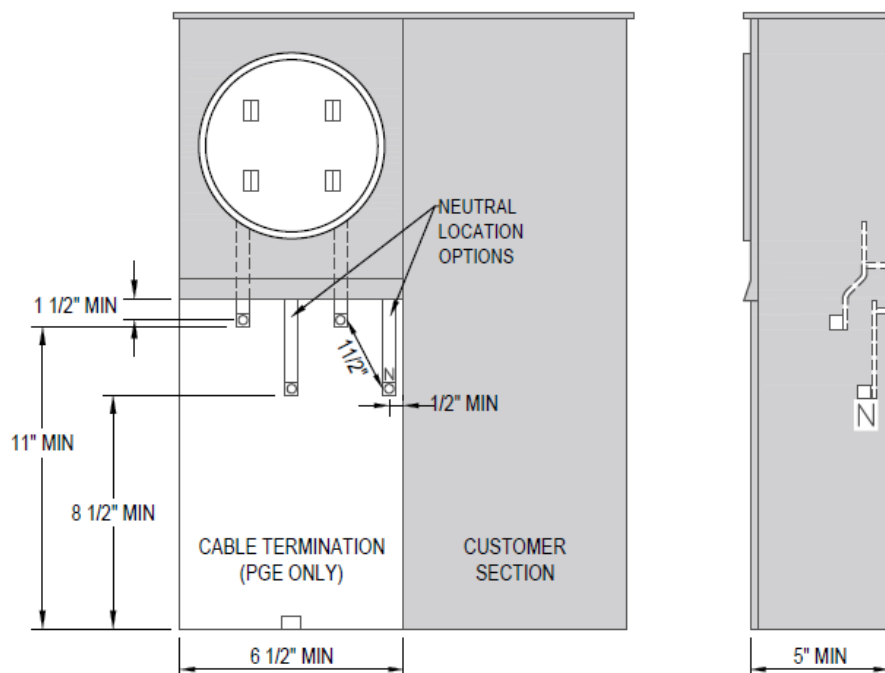

Figure 57. Residential Underground Approved Combination Meter Socket for 200 A Maximum Single-Phase Service (EUSERC 301) (STD-D-6000)
- The meter socket and conduit must be rigidly attached to the structure as shown in Figure 57. 2" x 4" back supports are required. The meter socket and conduit must be straight and plumb.